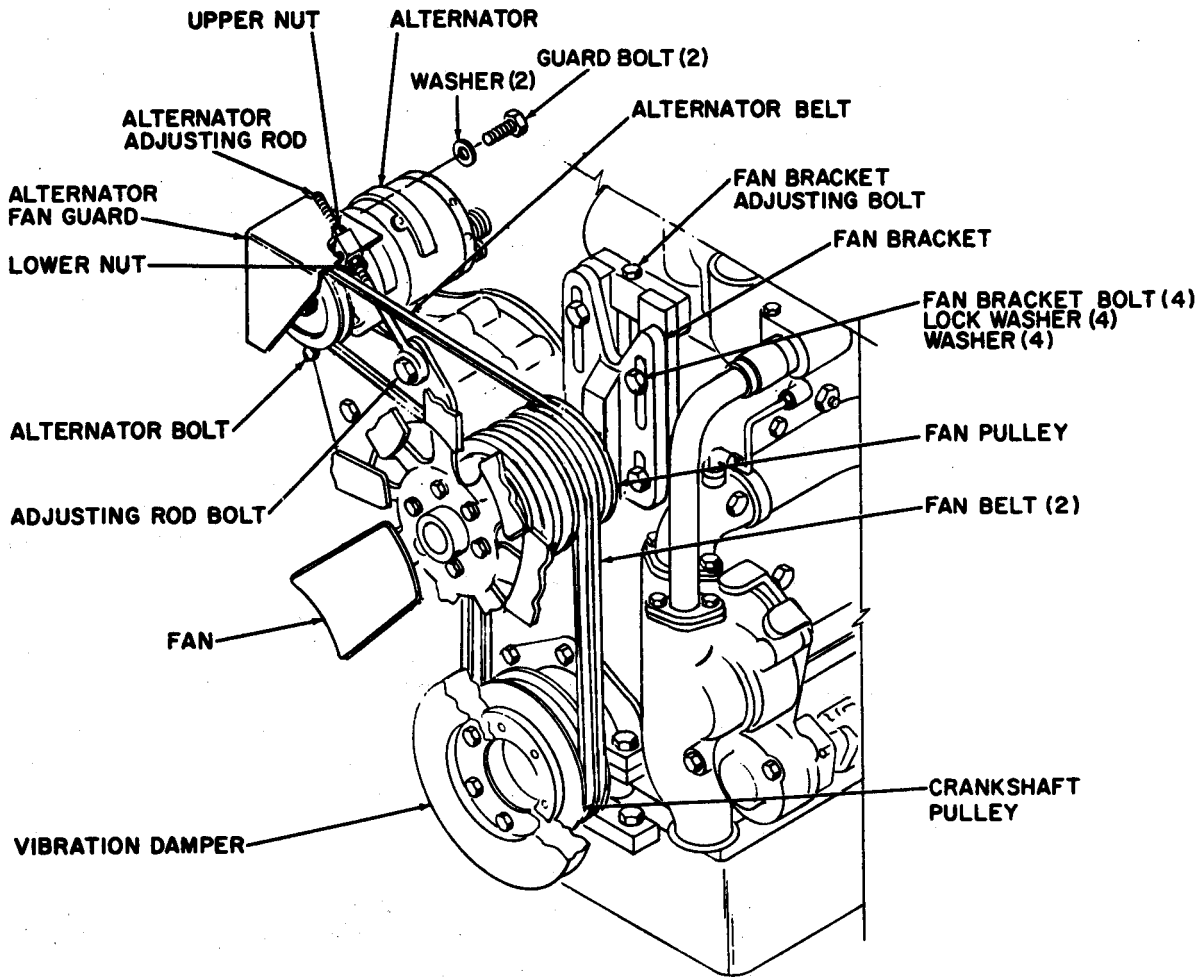

Figure 3-24. Alternator belts and fan belts, removal and installation
b. REMOVAL. To remove alternator and fan belts, refer to figure 3-24 and proceed as follows:
2. Remove alternator guard bolts and washers (figure 3-24). Loosen alternator bolt and pivot alternator fan guard away from alternator.
d. INSTALLATION. To install alternator and fan belts, refer to figure 3-24 and proceed as follows:
e. ADJUSTMENT. To adjust alternator and fan belts, refer to figure 3-24 and proceed as follows:
2. Loosen fan bracket bolts (figure 3-24). Rotate fan bracket adjusting bolt until a 25 pound force applied to belt, midway between crankshaft and fan pulleys, provides a belt deflection of 1/2 of an inch. Tighten fan bracket bolts.